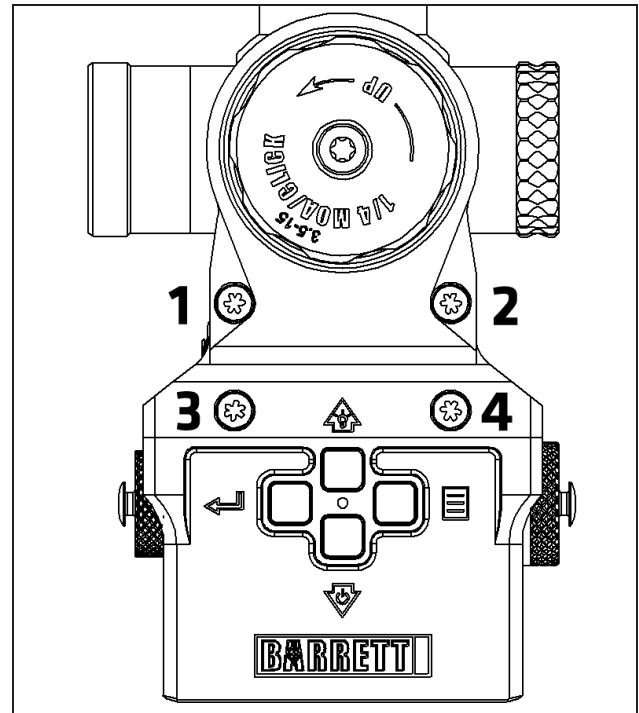
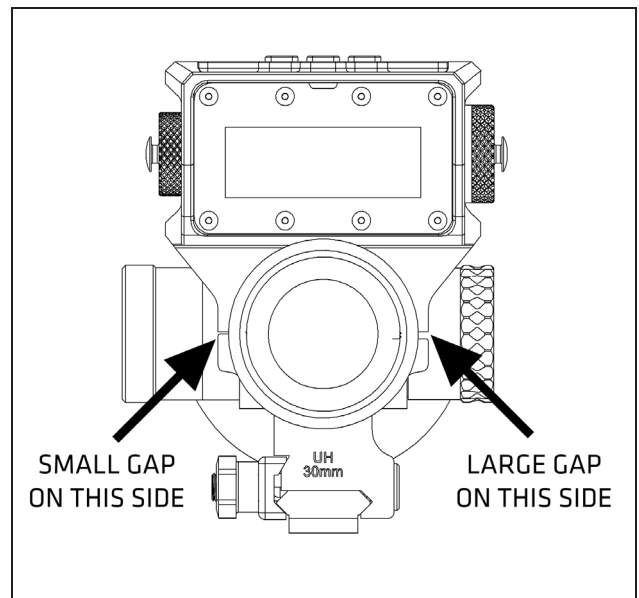

Figure 8.
Figure 9.
7. Ensuring the elevation knob rotates freely, evenly tighten Mount Screws (T-25 Torx[®]) # 1 and # 2. Figure 8. There should be a gap between BORS and the scope ring bases. Figure 9.
8. Tighten mount screws # 3 and # 4, and torque all four mount screws, in sequence # 1 to # 4, to 35in/lbs or 3.95Nm. Figure 8.